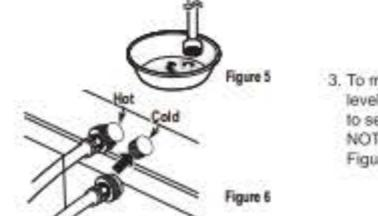

Figure 6
- Attach the hot water line to the hot water inlet on the back of the washer. Attach the cold water line to the cold water inlet on the back of the washer. Tighten each inlet hose by hand and then tighten another 2/3 turn with pliers. Turn ON both faucets all the way and check for leaks at both ends of the hoses. (Figure 6)